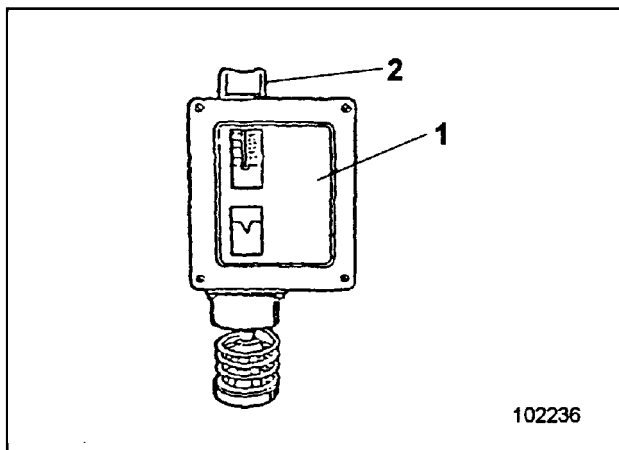

Fig. 4
Select the desired temperature with the knob (2, Fig. 4) on the thermostat (1).
Temperature control with thermostat (1, Fig. 4)